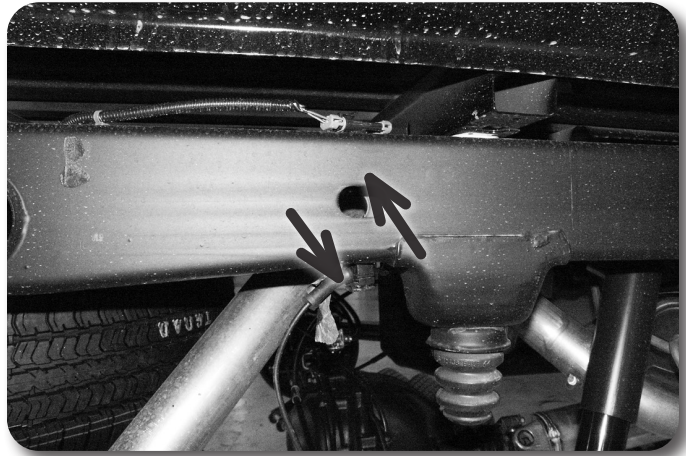

Figure 33
5. Remove the ABS lines from the retaining clip on the bottom of each frame rail. Also disconnect the ABS line connector from the top of the frame rail Figure 33.